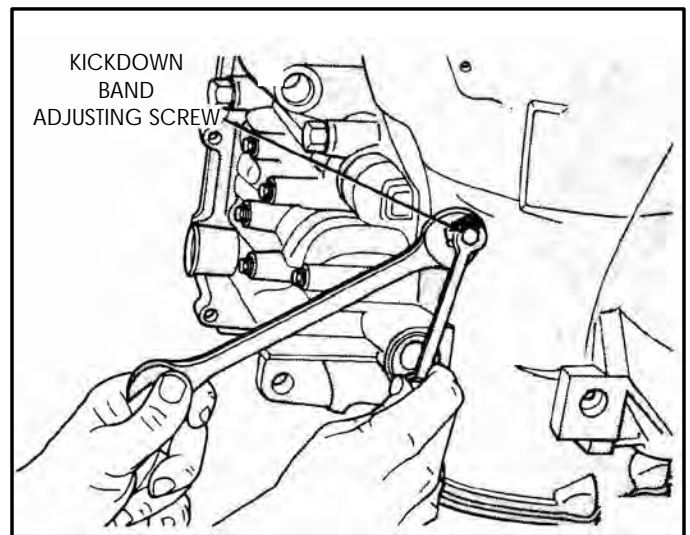

Figure 38
17. Tighten the kickdown band adjusting screw, as shown in Figure 38, to retain the front (direct) drum during pump removal.